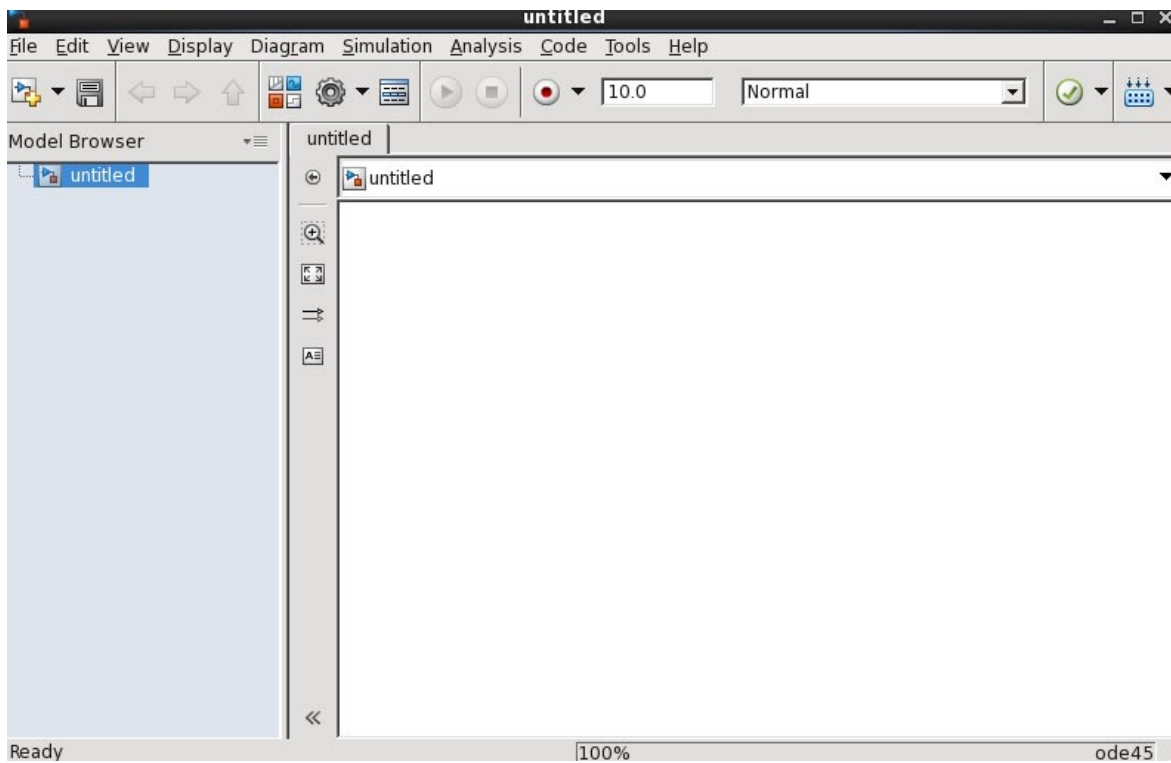

Figure 4: New Simulink Model window.
2. A simple Simulink model consisting of a Sine input Source block and a Scope Sink block will be created.4 To start editing the model, select **File -> New -> Model** from the Simulink Library Browser. An empty Model window will appear as shown in Figure 4: